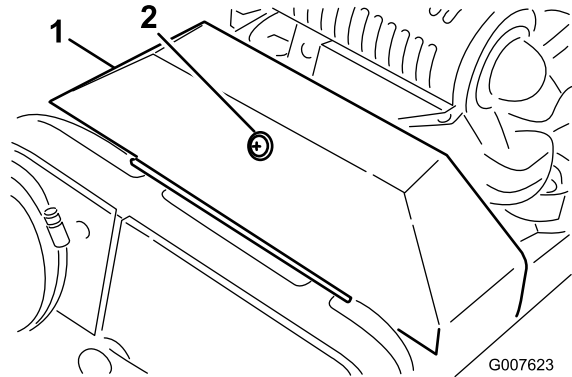

Figure 33
2. Loosen the retainer securing the V-belt cover and pivot the cover open (Figure 33).